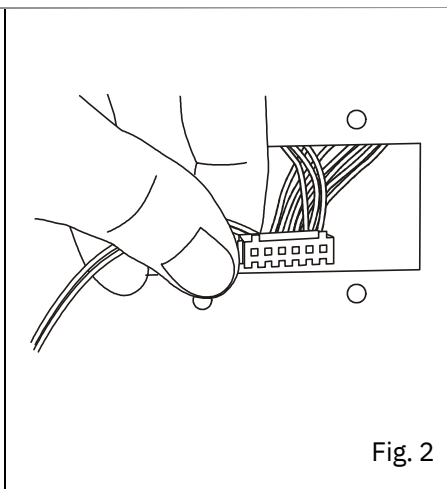
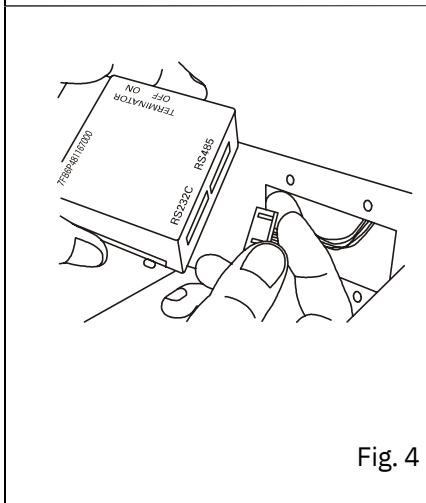
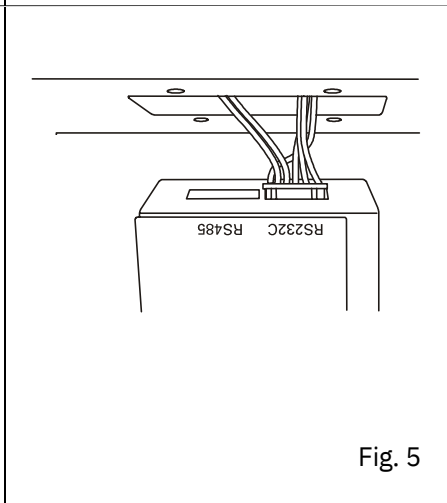

Fig. 2
Fig. 4
Fig. 5
2. Remove the recorder sensor cover (2 screws) of the inside (the right back front) of the freezer. (Fig. 2)
4. Pass a recorder sensor through the inside of the freezer in the hole (It is blocked with the rubber stopper and the insulation in this hole. Remove it first.) for the recorder sensor. (Fig. 4)
5. Fix a recorder sensor cover with 2 screws. (Fig. 2) stopper Fig.4
6. Bind the extra lead wire of the sensor with a nylon clip on the back of the temperature recorder. (Fig. 4)
7. As shown in the Fig. 5, insert the temperature recorder by using the recorder fixing(MDF-S30150) and temperature recorder fitting to the mounting space and fix it to the front side of the front panel. Fix with four screws.
2. Pull the cartridge out of the mounted position. (Fig. 2)
2. Provide an interface board (MTR-480) code from the fitting hole. (Fig. 2)
4. Connect to the connector side (the back side of the interface board) of a communication cable (RS-232C or RS-485) to use for the interface board (MTR-480). (Fig. 5 is a connection example to use RS-232C.) (Fig. 4 and 5)